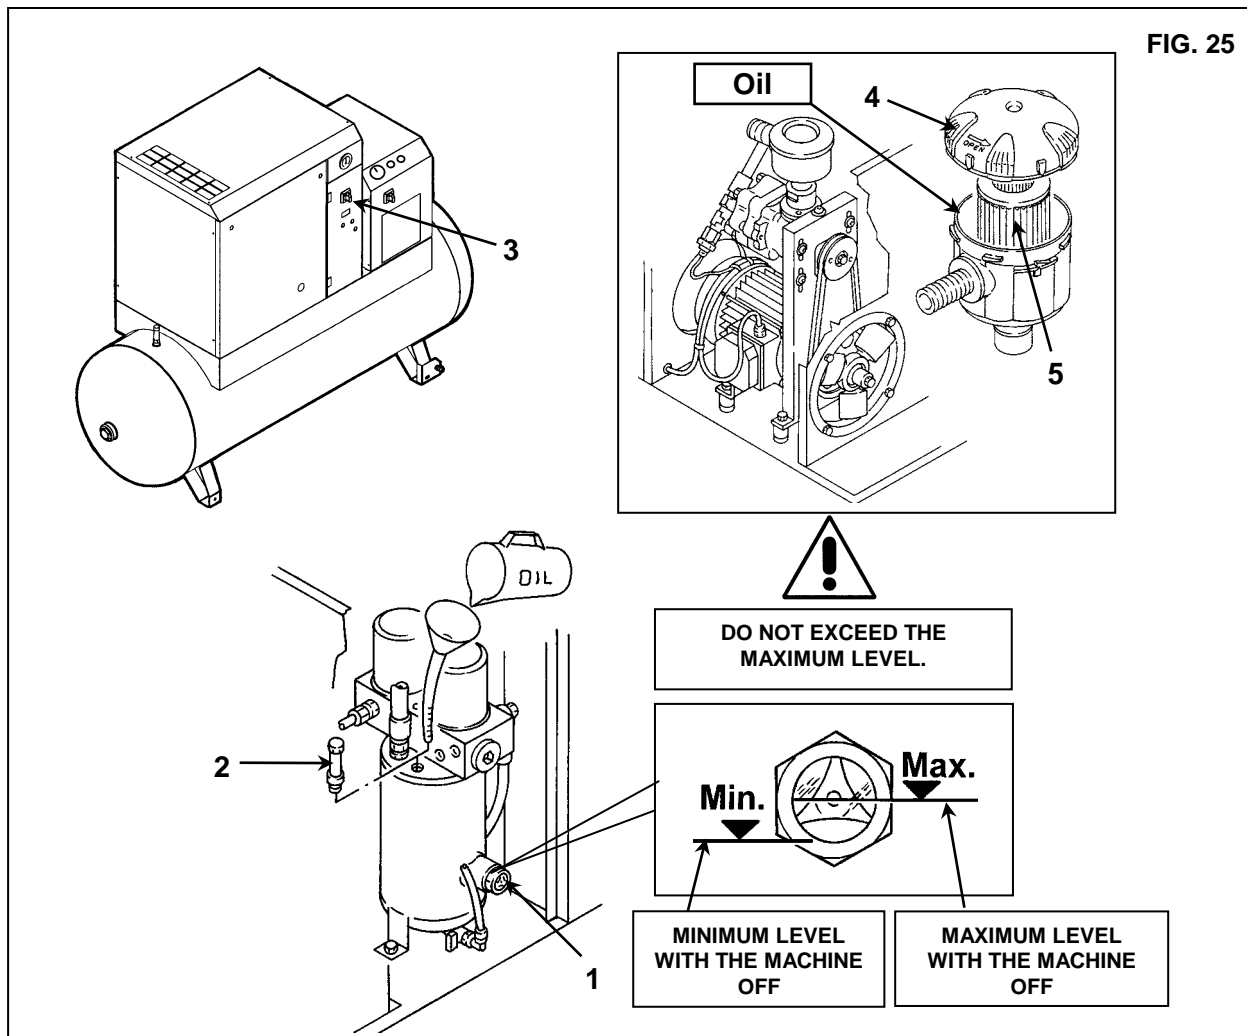

FIG. 25
After draining the old oil out of the machine Ref. 1 Fig. 25.
- Fill the oil manifold Ref. 2 Fig. 25 up to the level mark
- After about 1 minute, stop the machine, turning in "OFF" position the isolating switch Ref. 3 Fig. 25.